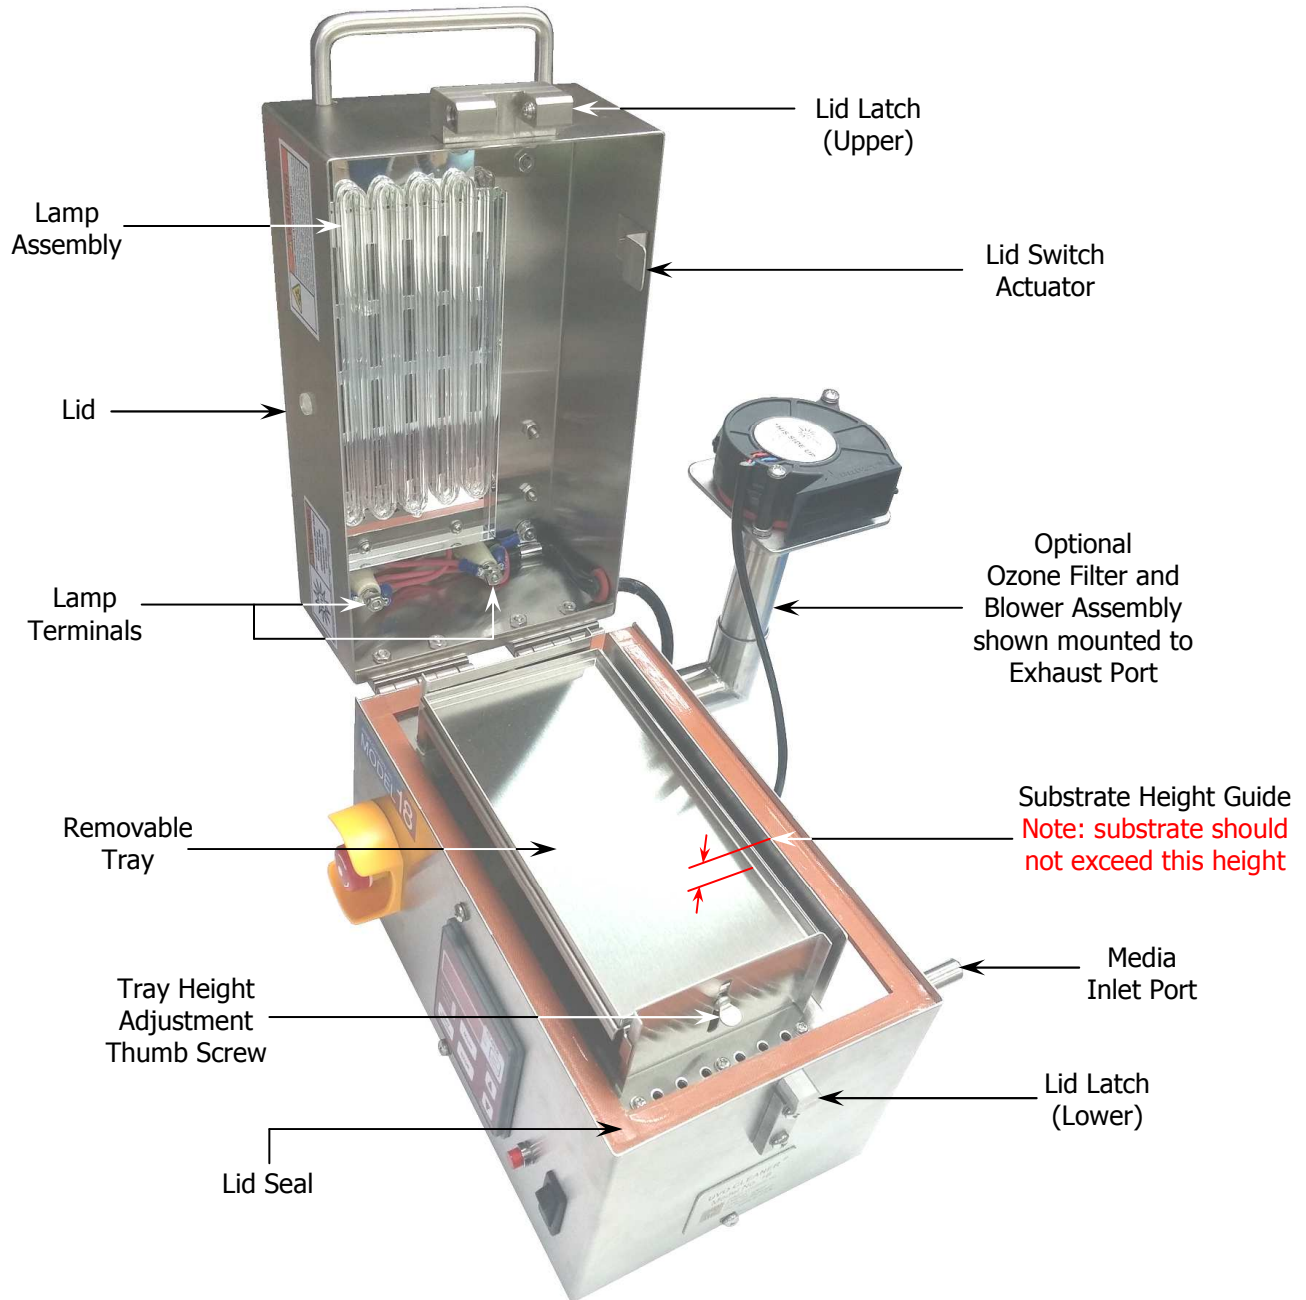

FIG. 3
Refer to Figure 3 and 4
Alternatively, install optional Ozone Filter ⑦ and Blower ⑧ onto Exhaust Port ⑥ and secure with Ozone Filter Locking Screw ⑨. Install Blower Plug ⑩ into Socket Outlet (Blower) at the rear of the machine (see Figure 3).
- 4 Optional: The Ventilation Monitor shown in Figure 3 may be connected to a customer supplied flow meter measuring the exhaust system.
- 5 Remove the vinyl cap from Media Inlet Port ⑪ located at the rear of the system.
- 6 Optional: connect Media Inlet Port ⑪ to a media supply.
- 7 Install Lamp Assembly ④ per Lamp Installation Procedure.
- 1 Open the Lid and load the substrate onto the Removable Tray (12). Substrates should be pre-cleaned before processing in the UVO Cleaner®. Removing large amounts of contamination will take long periods of time. Normal cleaning time should be determined through experimentation.
- 2 Adjust the Tray Height Adjustment Thumb Screws (14) at each end of Tray Support (13) to set the desired height. The height of the tray will vary according to the height of the substrate. For optimum results, the uppermost surface of the substrate should be aligned with the top of the Substrate Height Guide located at the rear of the tray – see Figure 3. This will place the substrate approximately 0.20" [5 mm] below the grid lamp.
- 4 Close the Lid until the Upper and Lower Lid Latches engage. At this time, the Lid Switch Actuator (Figure 3) will activate two safety interlock switches. If the Lid is not closed fully, the interlock mechanism will prevent lamp operation. If the Lid is opened during operation, the lamp will turn off immediately. This feature prevents operator exposure to harmful UV radiation.
- 3 Adjust the tray height so the uppermost surface of the Detector is aligned with the top of the Substrate Height Guide at the rear of the tray – refer to Figure 3. This will place the Detector window approximately 0.20" [5 mm] below the grid lamp.
The system has power but the Timer and Lamp do not operate.	<ul style="list-style-type: none"> • Check the Lid is closed properly. The Lid Switch Actuator (see Figure 3) must activate two safety interlock switches before the Timer will operate.